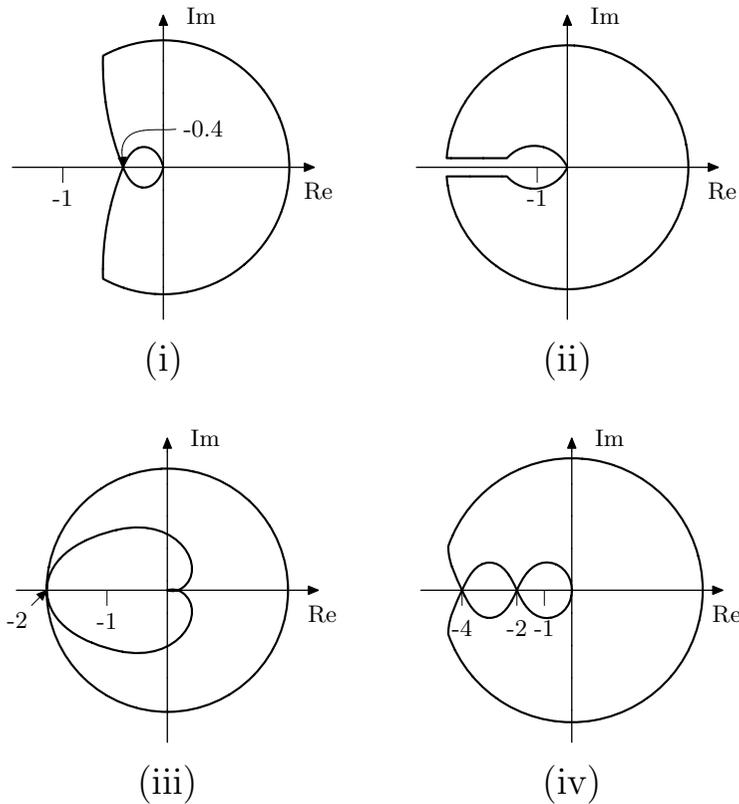

Figure 3.15b
- For $K = 1$, the open loop system $KG(s)$ has the Nyquist diagram according to (i), (ii), (iii), or (iv) in Figure 3.15b. Is the closed loop system stable in each case? $G(s)$ has no poles in the right half plane.